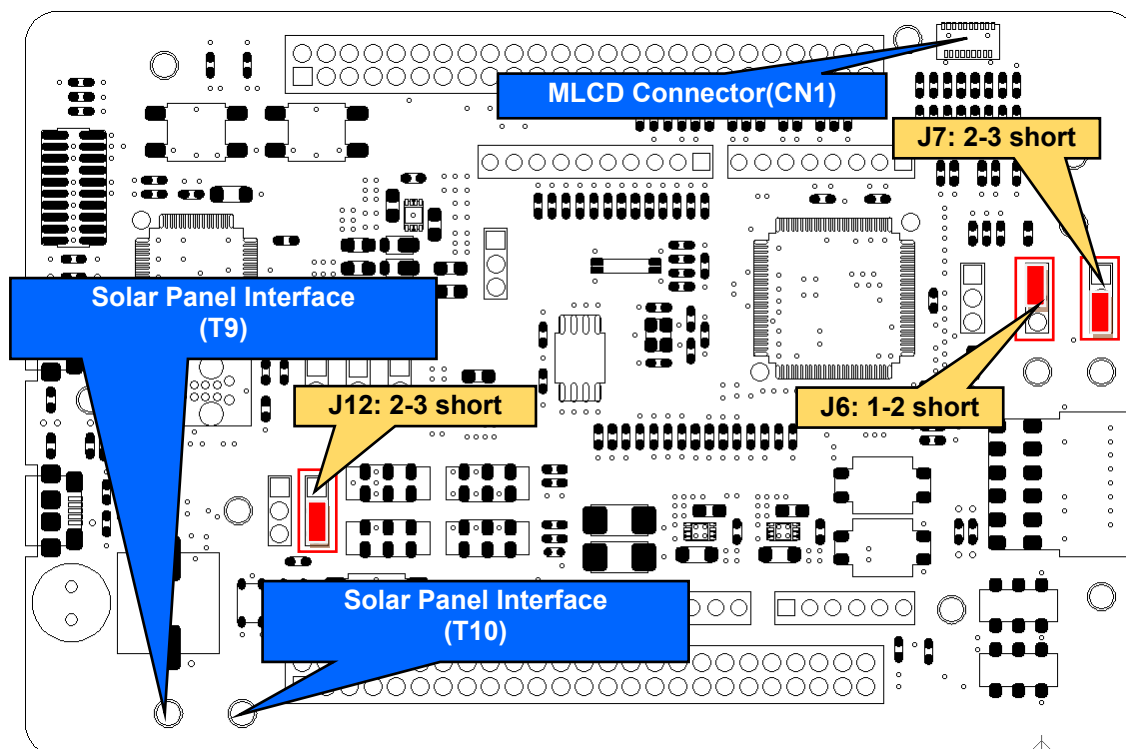

Figure 5-8: Component Layout and Settings (EHC Operation)
2. Follow the settings shown in **Figure 5-8** and **Table 5-10**.